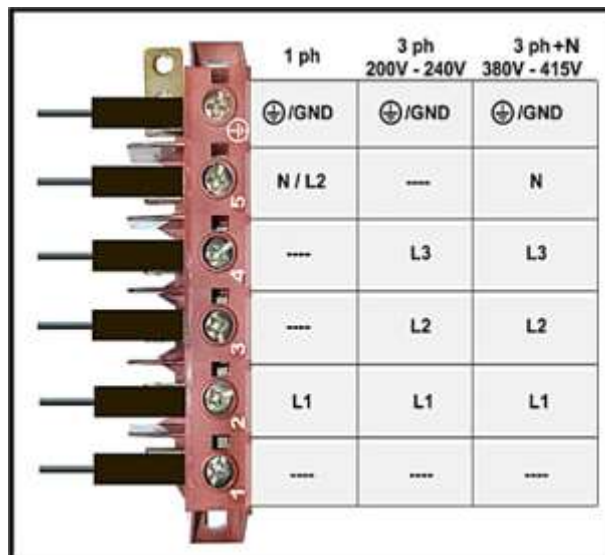

Fig. 20
- The connection sequence of the cables to the entry board varies according to the number of phases and the voltage of the washer. On the label posted next to the entry board are indicated the different connection options. Refer to fig. 20.